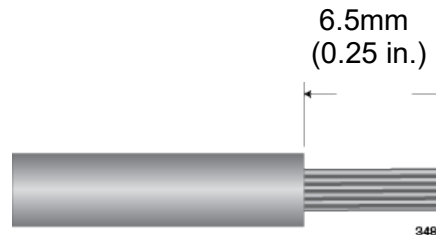

Figure 40. Strip Power or Alarm Wire
1. Strip 6.5mm (0.25 in.) of insulation from the ends of each of power and the alarm wires with a wire insulator stripper. Refer to Figure 40.